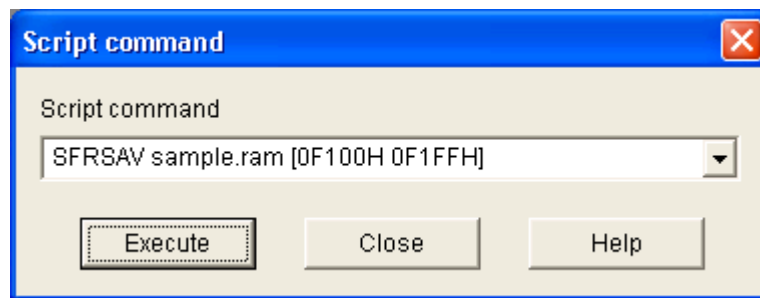

Figure 6.4.1 Run a Script Command
①From the menu bar of DTU8 Debugger, select Tool ⇒ Run Script Command.
②Execute the SFRSAV command to write the data in the DSPR register area into a file. For the addresses where the DSPR registers are assigned, refer to the user's manual of the LSI used. The example shown in Figure 6.4.1 assumes that the DSPR registers are assigned to addresses F100H to F1FEH. It is assumed that a file named sample.ram will be output. In this case, the format of the SFRSAV command is as follows (see Figure 6.4.1):